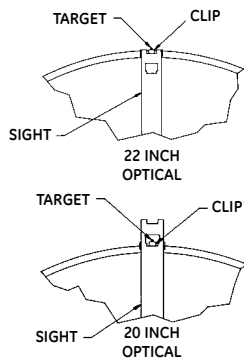

FIGURE 5B
6. Align the target as shown on Figure 5B.
8. Align the target as shown on Figure 5B.